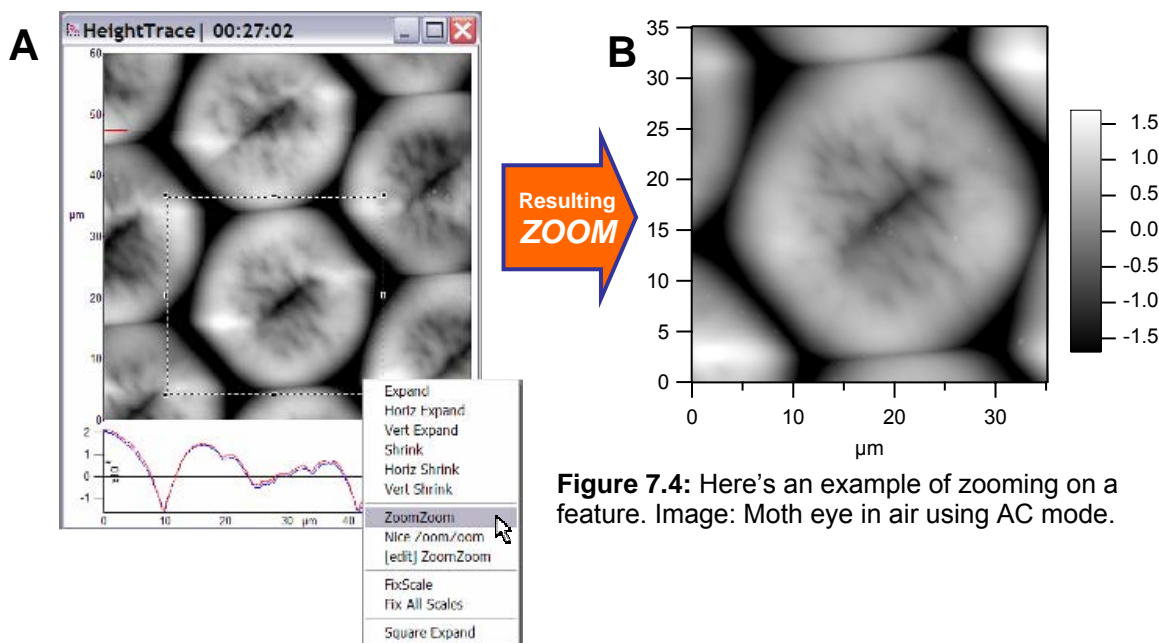

Figure 7.4: Here's an example of zooming on a feature. Image: Moth eye in air using AC mode.
① Manually type in a value into the Scan Area setvar parameter window; This will zoom with the same image center as the previous scan area- unless you manually offset, which would be a separate step (*see Section 7.3*).
② Use mouse cursor to draw a box around a feature of interest on image; the Igor mouse cursor will change shape to indicate a pop up menu is available; right mouse click and select 'Zoom Zoom', this will pick the *smallest* side of the (imprecise) rectangle that was created. Figure 7.4 shows an example of this to zoom.
③ To be more precise, select '[edit] Zoom Zoom' and manually type in the Desired Size value. Click 'Do It' to Zoom to the desired location.
▪ An example of Zooming can be seen in Figure 7.4 - using the left button of the mouse, a square/ rectangle is drawn around feature of interest; move the mouse back inside the quadrangle- a special cursor should appear that brings up a menu after right or left mouse click. Select 'Zoom Zoom' to decrease the scan area relative to the smallest side of the quadrangle; To make a more precise scan area, select '[edit] Zoom Zoom' ; which will present a dialogue allowing you to manually type in a value (i.e., instead of 35.61 μm , 35 μm was selected).